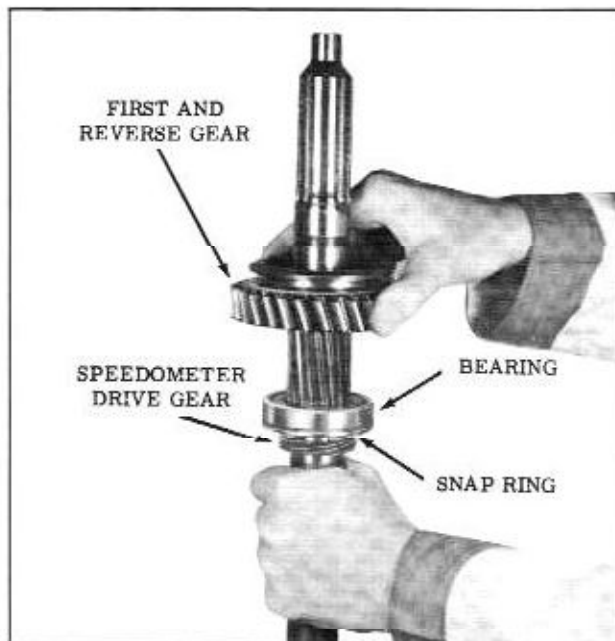

Fig. 11-24 Removing Bearing and Gear
3. Place the first and reverse gear on the main shaft first and reverse splines with the flat side of the gear toward the bearing. Using the first and reverse gear as a slide hammer, remove the speedometer drive gear, retaining ring and bearing from the shaft. (Fig. 11-24)